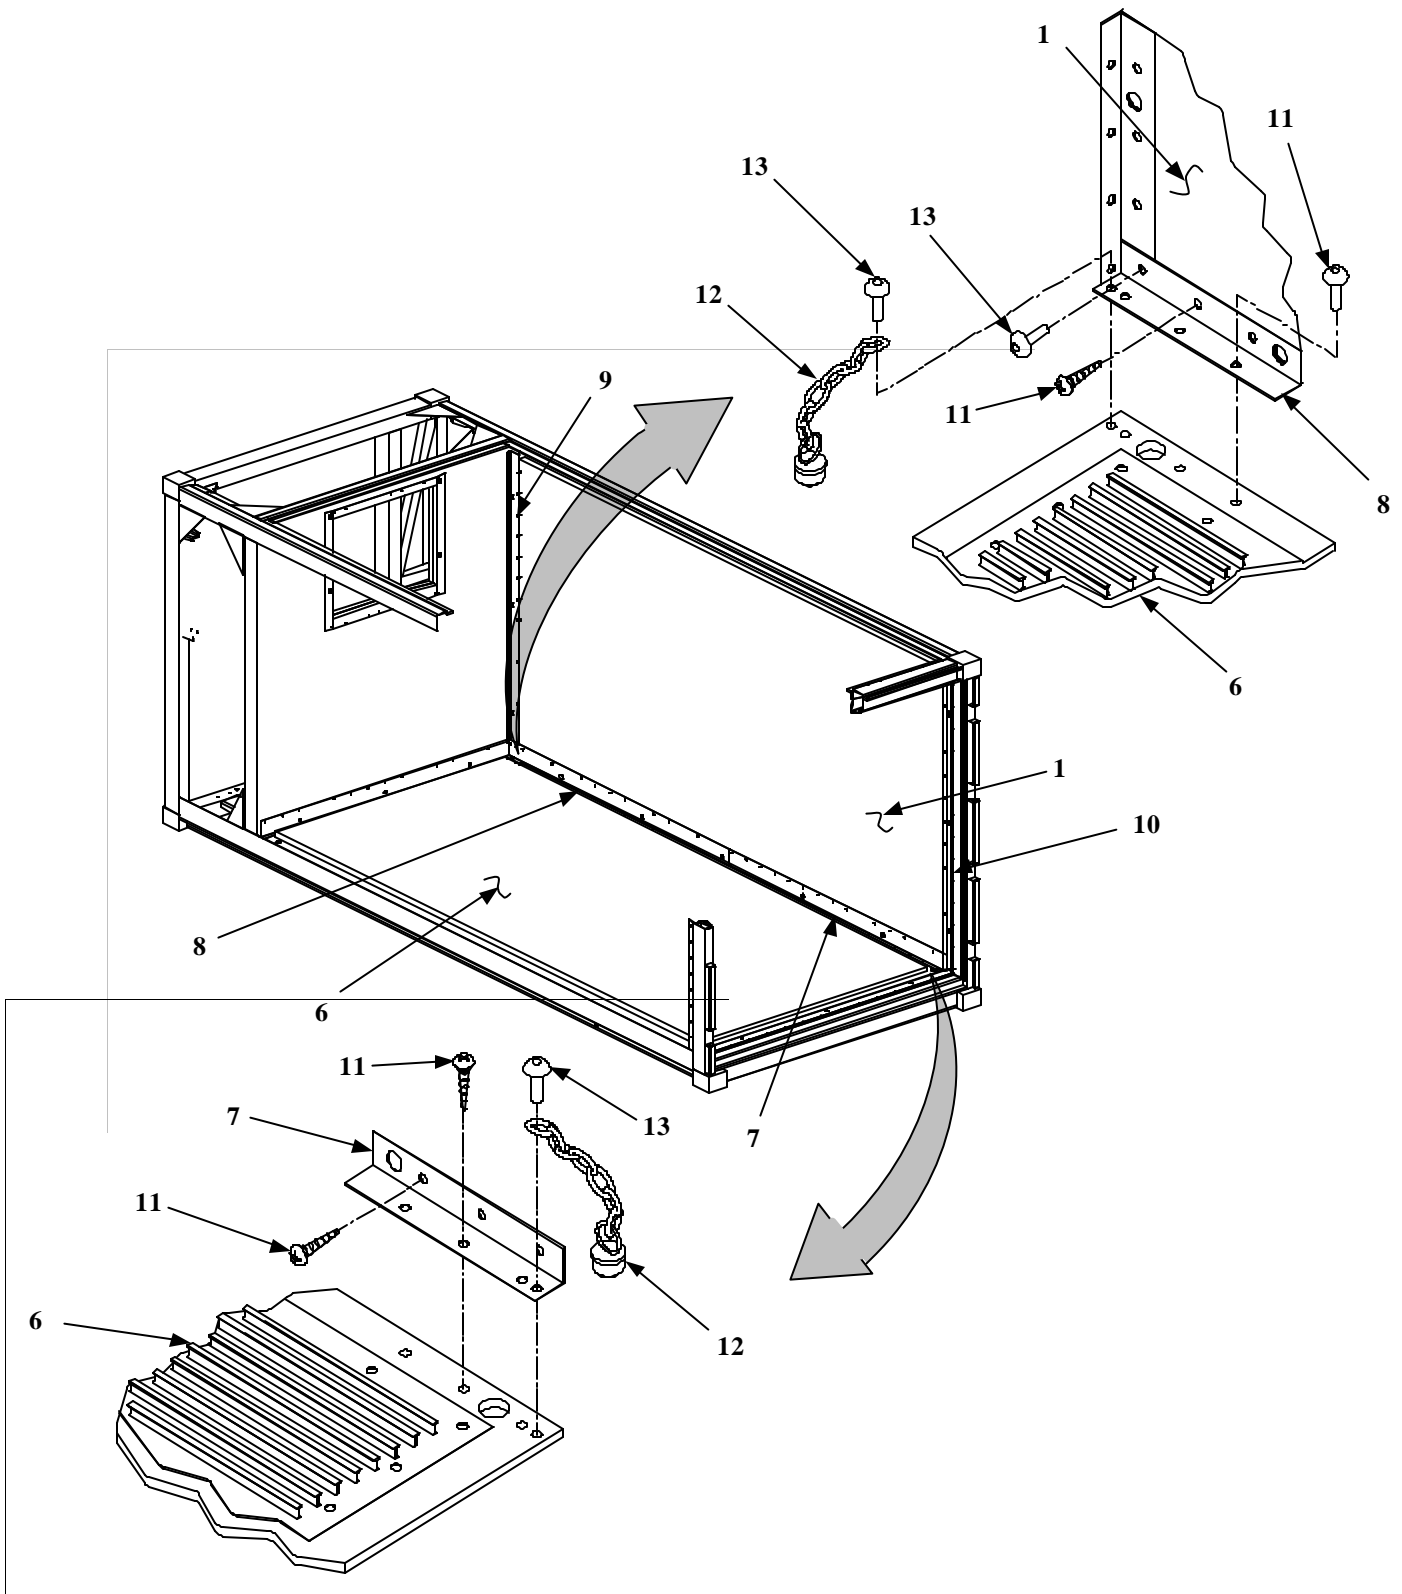

Figure 2. Panel Installation (Sheet 3 of 4)
14. Position angle plate (9, figure 2) against side panel (1) and front panel (14) and install seven liner rivets (15) (Item 12, WP 0081 00), securing angle plate to front panel.
15. Using angle plate (9) as a template, drill seven .187 diameter holes into side panel (1)
16. Install seven liner rivets (15) (Item 12, WP 0081 00) in angle plate (9).
17. Position angle plate (10) against side panel (1) and install fourteen screws (16).
18. Using angle plate (10) as a template, drill two .197 diameter holes in side panel (1) and install two pop rivets (13) (Item 23, WP 0081 00).
19. Using angle plate (10) as a template, drill thirteen .172 diameter holes into side panel (1).
20. Install thirteen bolts (17) in angle plate (10).
23. Remove eleven button plugs (18) from angle plates (7, 8, 9 and 10) and fill voids between side panels (1) and front panel (14) and floor panel (6) with urethane foam (Item 8, WP 0078 00). Install button plugs; seal around each plug with sealant (Item 3, WP 0078 00).